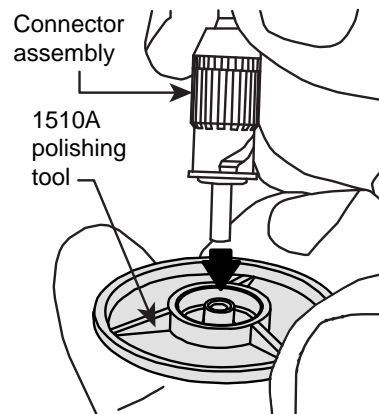

Figure 32. Prepare Polishing Tool
4. **Insert Connector into Polishing Tool**—Insert the connector tip into the 1510A polishing tool (Figure 32).